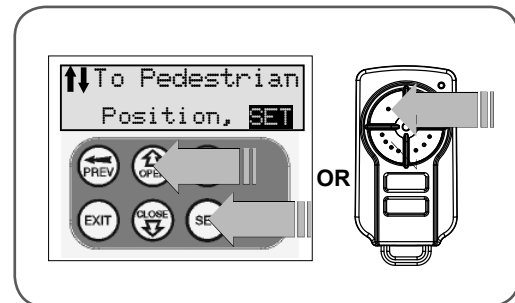

fig 19
1. Press OPEN to move the door to the desired pedestrian access position. (Or press button 1 on transmitter) (Fig. 19).